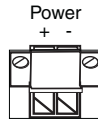

Figure 2. Terminal block power connection
- The power connection to the CL1300R is a terminal block (see Figure 2).